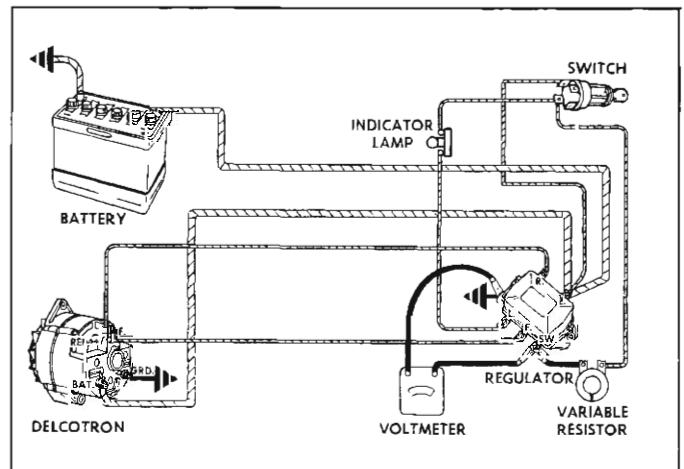

Fig. 9—Checking Field Relay Closing Voltage
1. Make connections as shown in Figure 9 using a 50 to 75 ohm variable resistor.